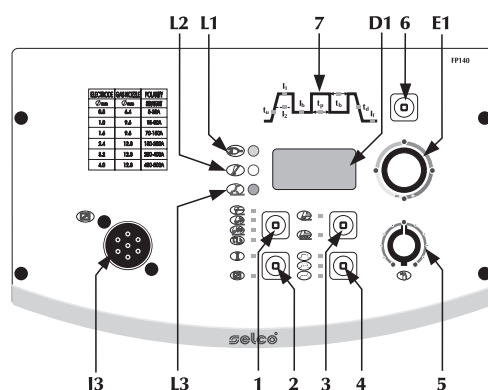

Fig.2
2.1.2 Betjeningspanel foran FP140 (Fig. 2)